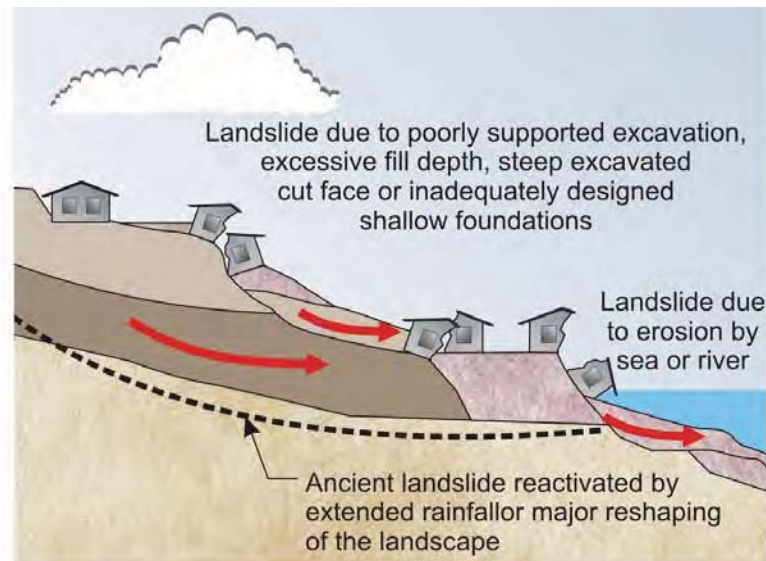

Figure 3
- 3) Excavation without adequate support, increased surface load from fill placement, or inadequately designed shallow foundations (Figure 3).
- 4) Natural erosion at the toe of the slope due to scour by a river or the sea (Figure 3).
- 5) Re-activation of an ancient landslide (Figure 3).